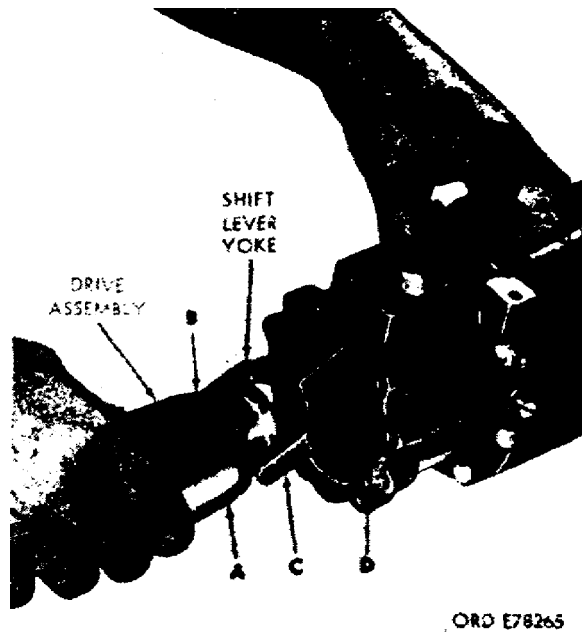

Figure 14. Drive assembly.
(2) The drive assembly and shift lever yoke may be removed from the intermediate housing and armature shaft by pulling on the drive assembly (fig 14).